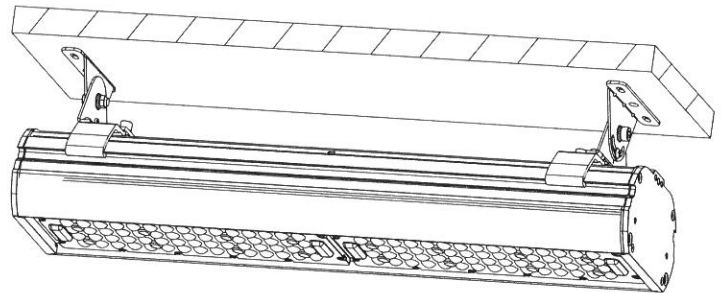

FIG.2
2. Bracket type: Angle adjustable installation( $4 \times 30^\circ$ ) (FIG.2)